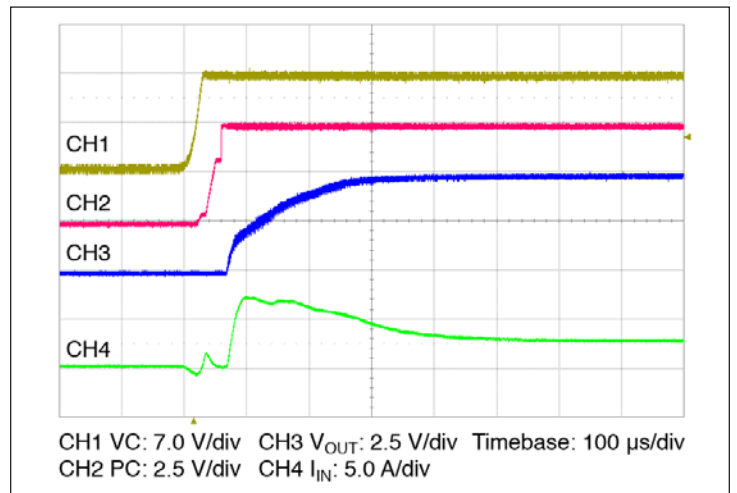

Figure 14 — Start up from application of V_C ; V_{IN} pre-applied $C_{OUT} = 0 \mu$ F
- **Stand Alone Operation (VC applied after V_{IN}):** In this case the module output will begin to rise upon the application of the VC voltage (See Figure 14). The Adaptive Soft Start circuit (See Section 10) may vary the output rate of rise in order to limit the inrush current to its maximum level. When starting into high capacitance, or a short, the output current will be limited for a maximum of 900 µsec. After this period, the adaptive soft start circuit will time out and the module may shut down. No restart will be attempted until VC is re-applied, or PC is toggled. The maximum output capacitance is limited to 2000 µF in this mode of operation to ensure a successful start.